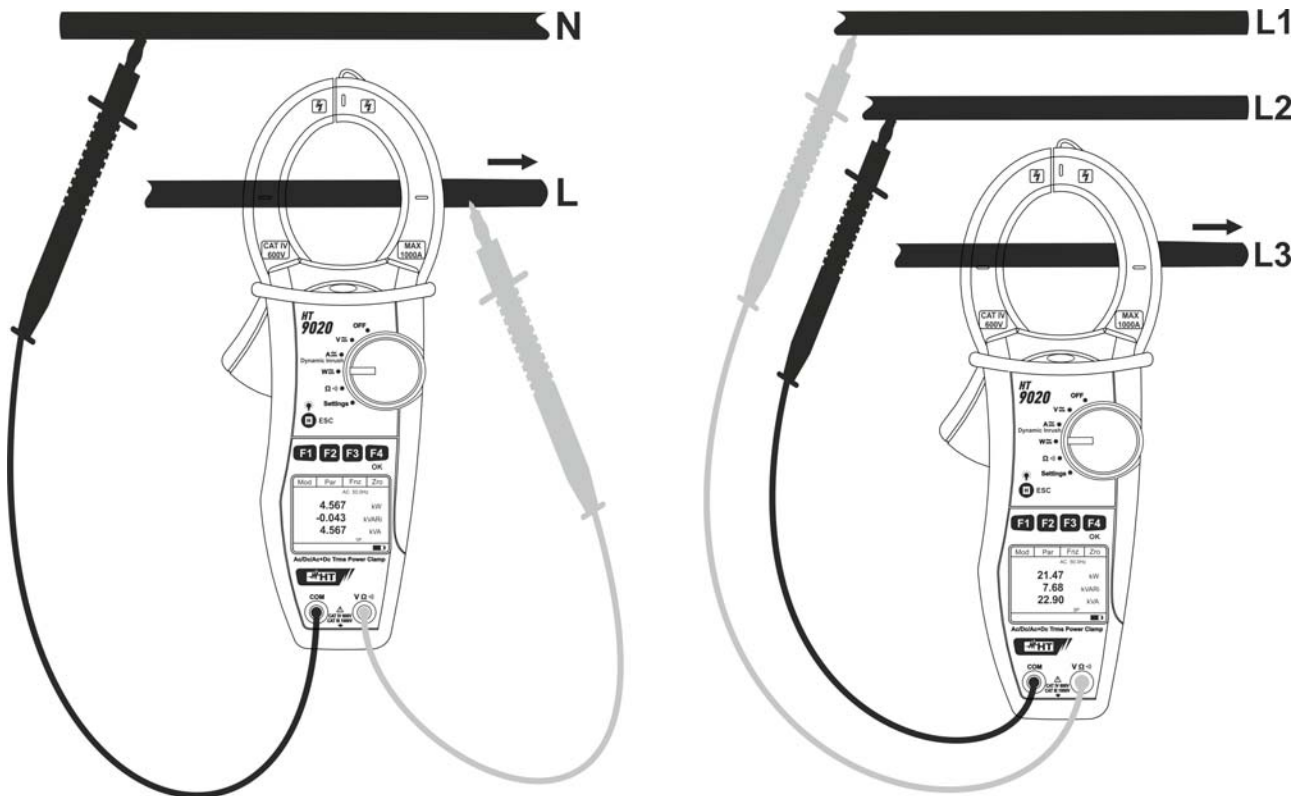

Fig. 12: AC/AC+DC power measure on Single phase and balanced Three phase systems
5. Connect red cable to input lead **VΩ¹**) and black cable to input lead **COM** then perform the connection as indicated in Fig. 12 depending on the type of system under test. Put the phase cable into the clamp jaws respecting the direction of current indicated by the arrow (see Fig. 12). Connect the cable to the middle of the clamp jaws, in order to get accurate measurements. Use the marks as a reference (see Fig. 2)